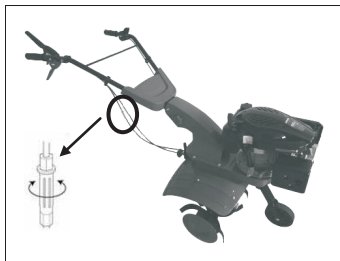

Fig.16
- To extend the wire and reduce speed, screw the adjustment screw counterclockwise (Fig.16)